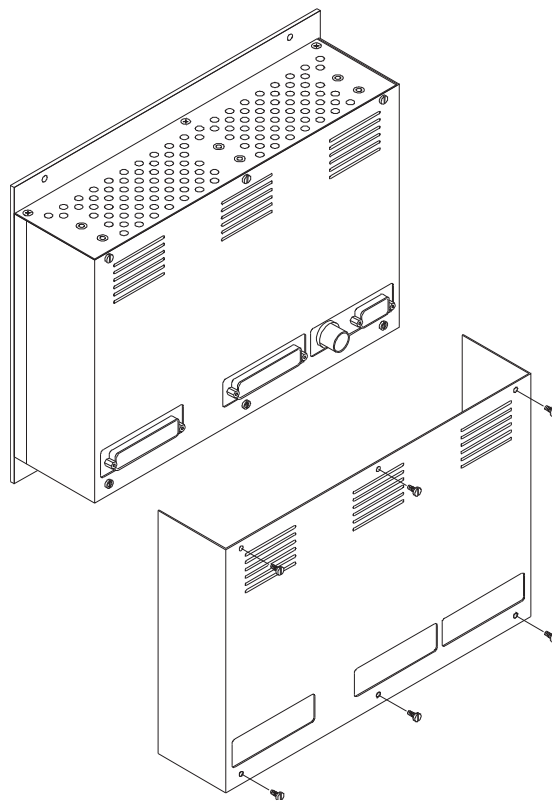

Fig. 8-13: Remove rear cover
3. Open the backplane cover (six screws). Store screws and metal plate. (fig. 8-13)